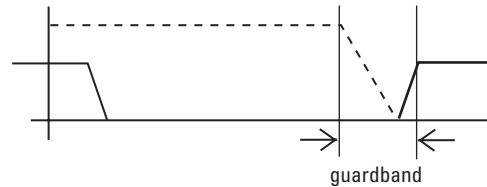

Figure 20. Guardband to allow for filter rolloff in reconstruction filter selection
1. The "guard" term allows for filter rolloff. See Figure 20.